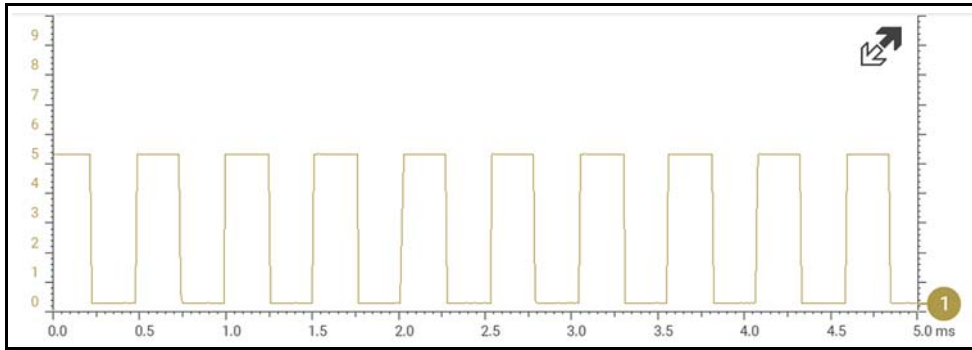

Figure 9-40
**1** - Monitoring / Capturing waveform as it displays normally (Figure 9-40). You may not see a glitch, while monitoring at this setting.